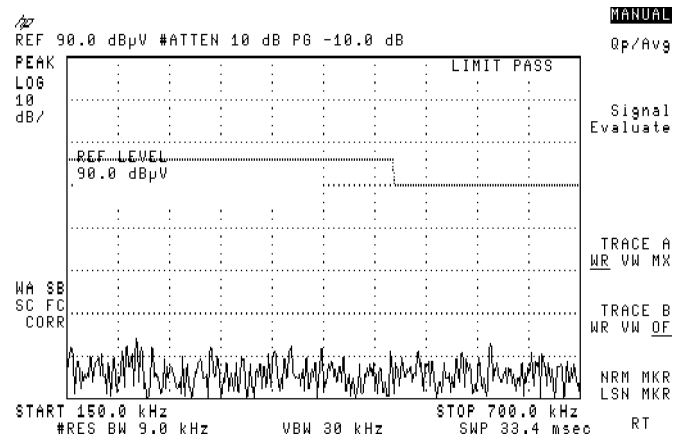

Figure 3-33. Verifying the Emissions
24. To verify that the emission is coming from the device under test, disconnect the BNC cable from the transient limiter's input. See Figure 3-33.